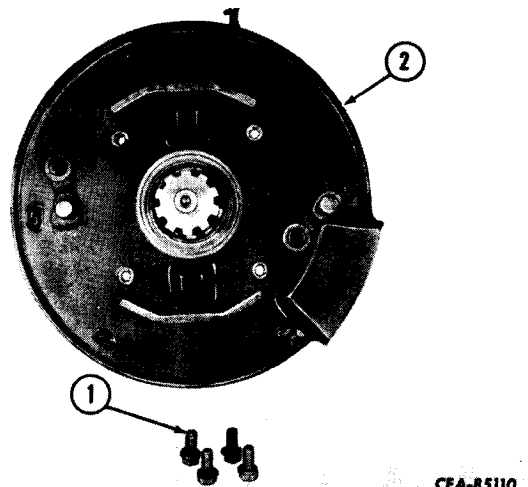

Figure 5-23
Remove the cap screws and lock washers (1, Fig. 5-23) that secure the backing plate (2) to the transfer drive housing.